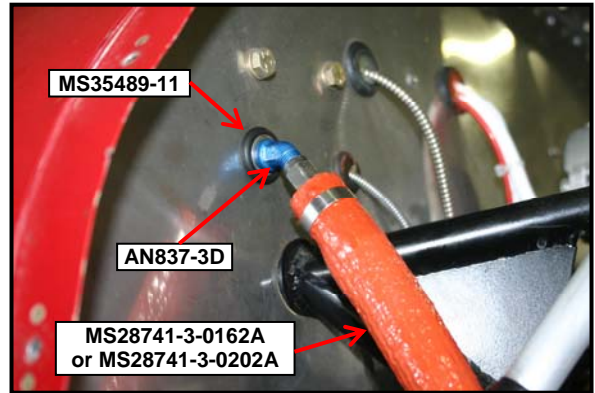

Figure 7 - Analog Gauge Firewall Hardware
15. Remove the synthetic rubber grommet from the firewall and replace it with a larger internal diameter grommet (MS35489-11). Install the 45° bulkhead fitting (AN837-3D) in the grommet with the 45 bend forward of the firewall (see Figure 7). Attach the bulkhead nut (AN924-3D) aft of the firewall but do not tighten yet.